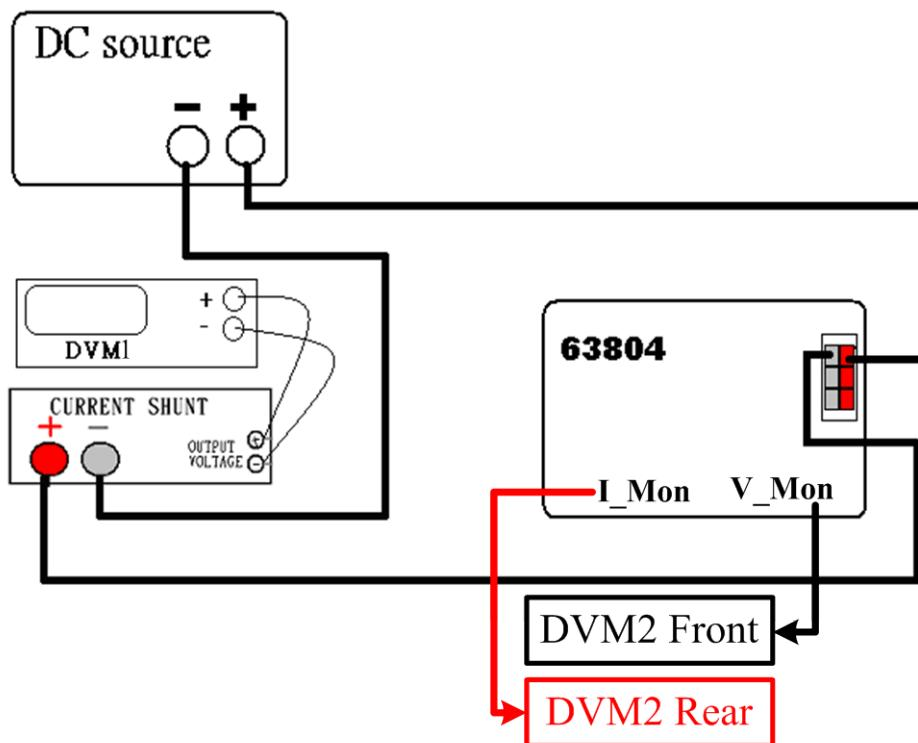

Figure 10-2: AC Load, DC Source, Current Shunt and DVM Wiring Diagram
2. *Figure 10-2: Use DC Source with high voltage or high current. Current Shunt follows test current to select different ranges, the withstanding current of wire from Source to Shunt and Load needs 45A above. The voltage output of Current Shunt connects to DVM1. Use BNC to alligator clip cable to connect DVM Front terminal to V\_Mon terminal of AC Load. However, use another BNC to alligator clip cable to connect DVM Rear terminal to I\_Mon terminal of AC Load.*
DC Source wiring as *Figure 10-2*, switch AC Load to DC mode, the procedures are as follows.